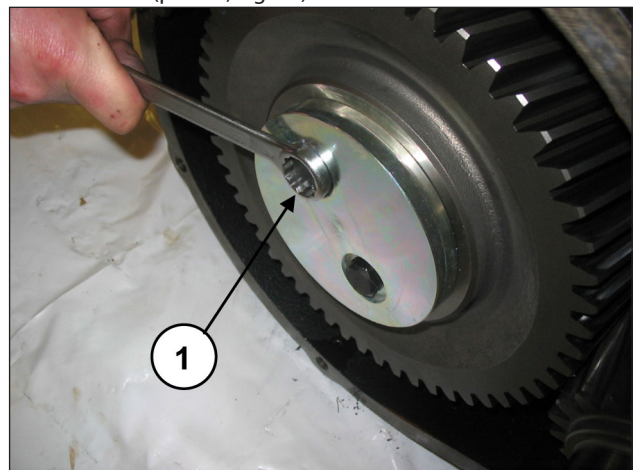
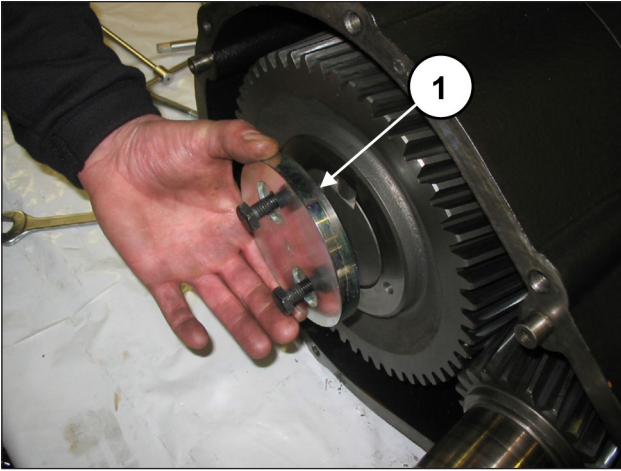

Fig. 10
Fig. 11
On completing this process, remove the reduction gear cover and then extract the bearing from the pinion. Unscrew the screws holding in the ring gear (pos. ①, Fig. 10) and remove it (pos. ①, Fig. 11).